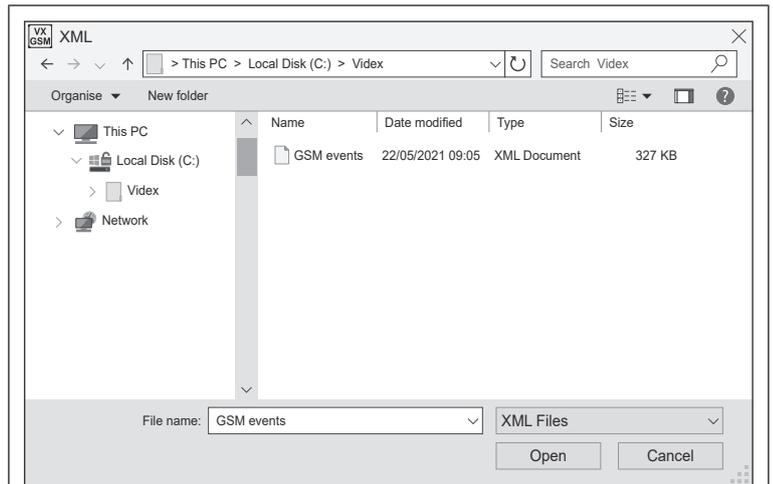

Fig. 71
- The 'XML open' window will appear, as shown in **Fig.71**, locate the file location of the saved event log (these are saved as XML documents).